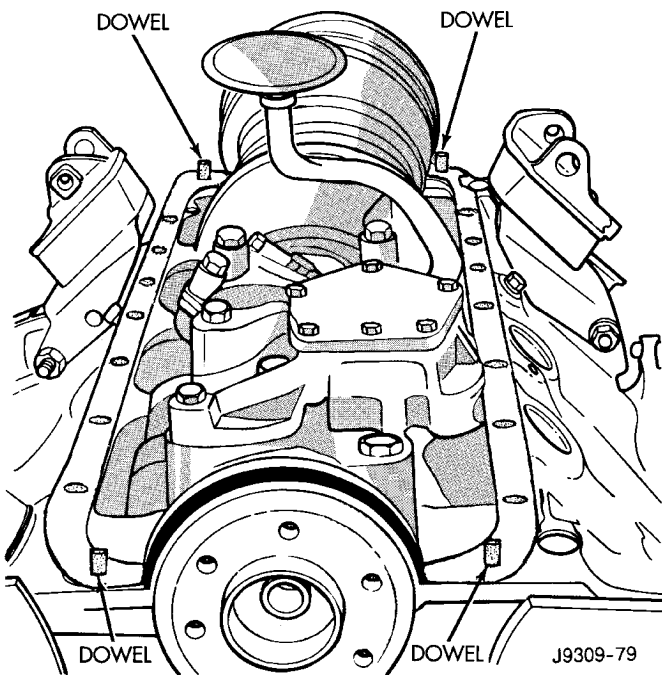

Fig. 38 Position of Dowels in Cylinder Block
(2) Install the dowels in the cylinder block (Fig. 38).
(3) Apply small amount of Mopar® Silicone Rubber Adhesive Sealant, or equivalent in the corner of the cap and the cylinder block.
(4) Slide the one-piece gasket over the dowels and onto the block.